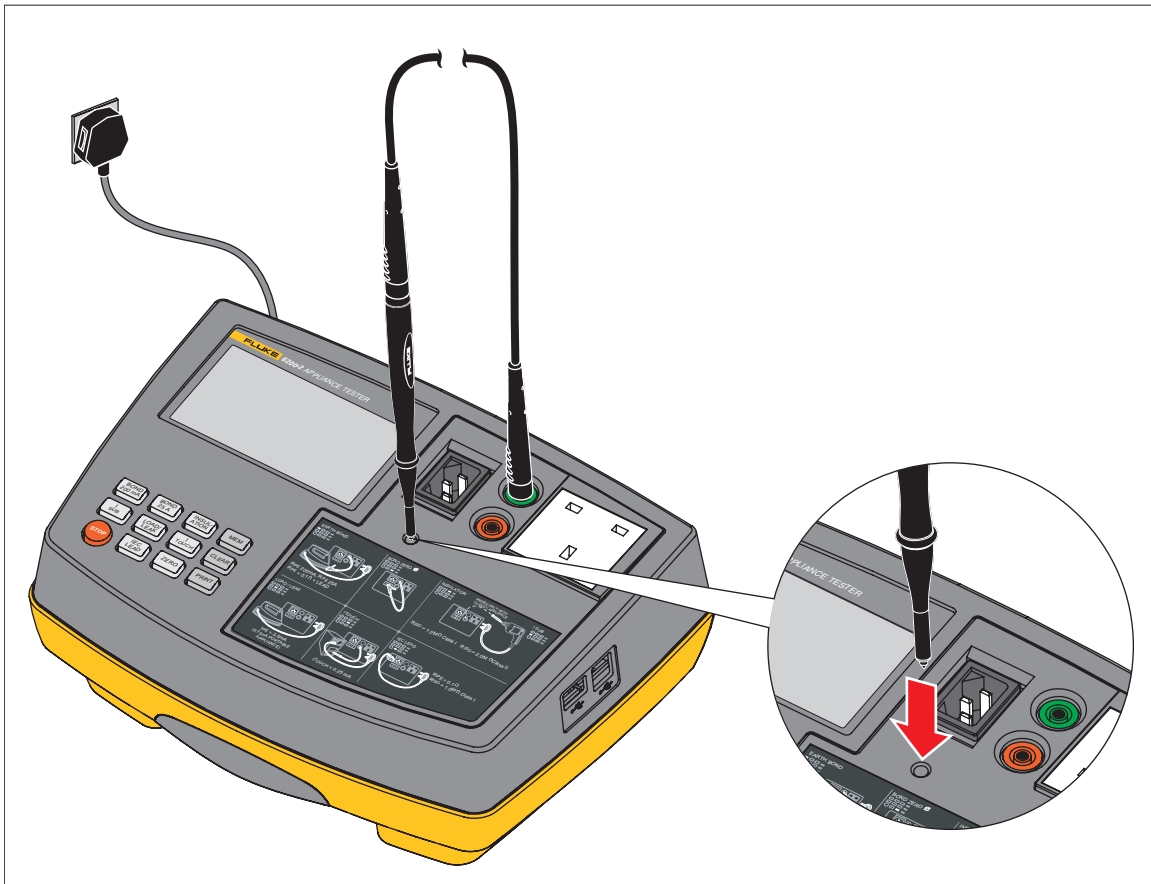

Figure 1. Bond Zero Connections
1. Attach the probe to the test lead and insert the test lead plug into the EARTH BOND socket, see Figure 1.
- To enable the bond test and to obtain correct bond test results you must have zeroed the test lead, see Figure 1.
- High current bond test 25 A (UK, NL, AU) and 10 A (DE).
If a double beep sounds the earth bond test lead has not been zeroed (no Ø symbol on the LCD). You must zero the test lead, see Figure 1.